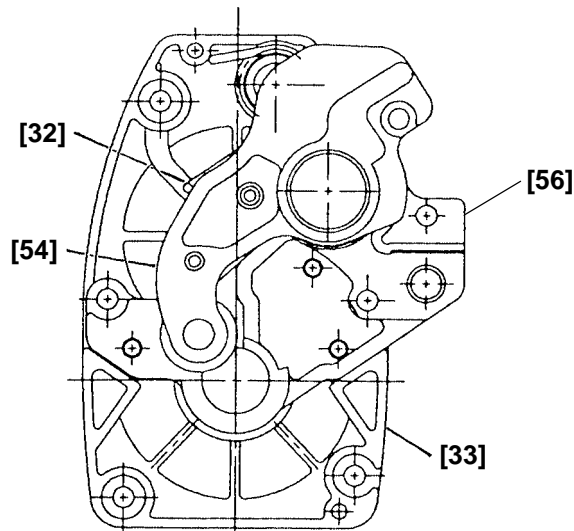

Fig. 38
(i) Mount the Return Spring [32] to the Gear Cover [33] (Fig. 38).
(ii) Mount the bracket ass'y assembled in the above steps (b) and (c) to the Gear Cover [33] hooking the Return Spring [32] on Bracket (A) [54] (Fig. 38).